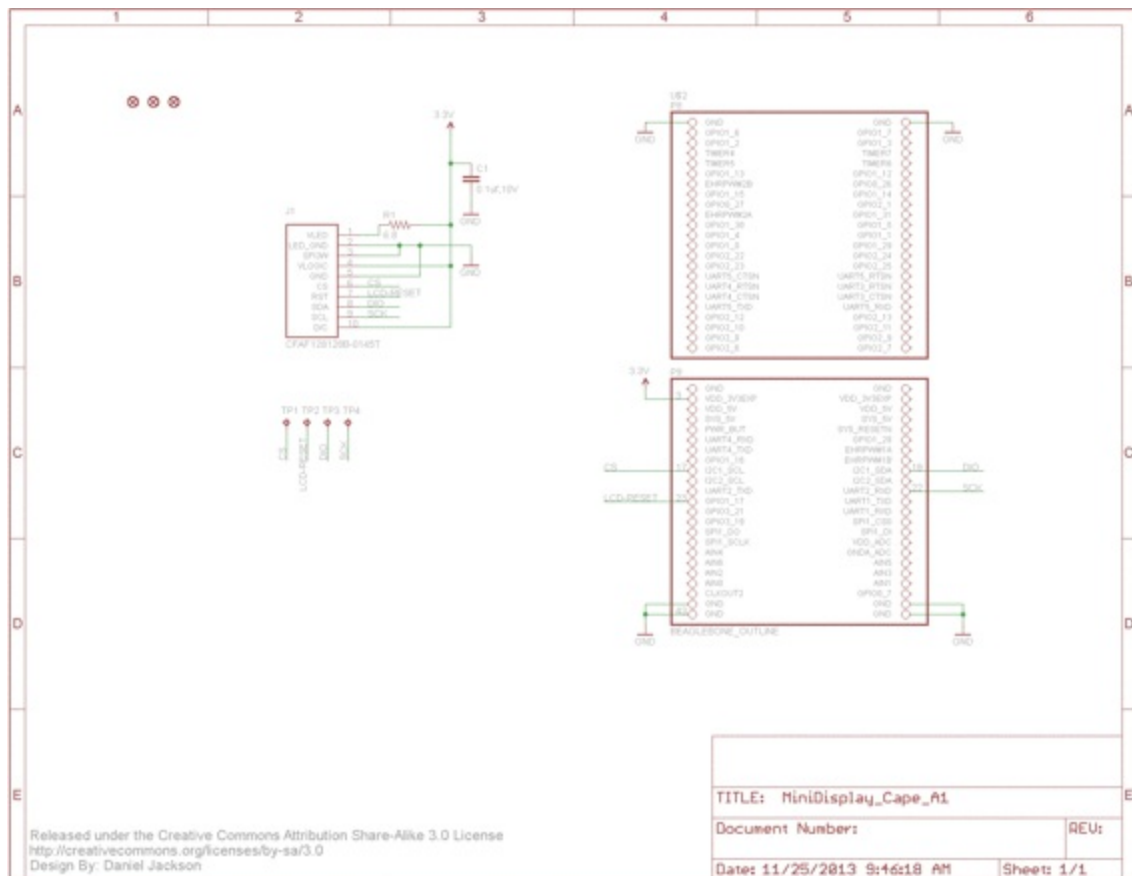
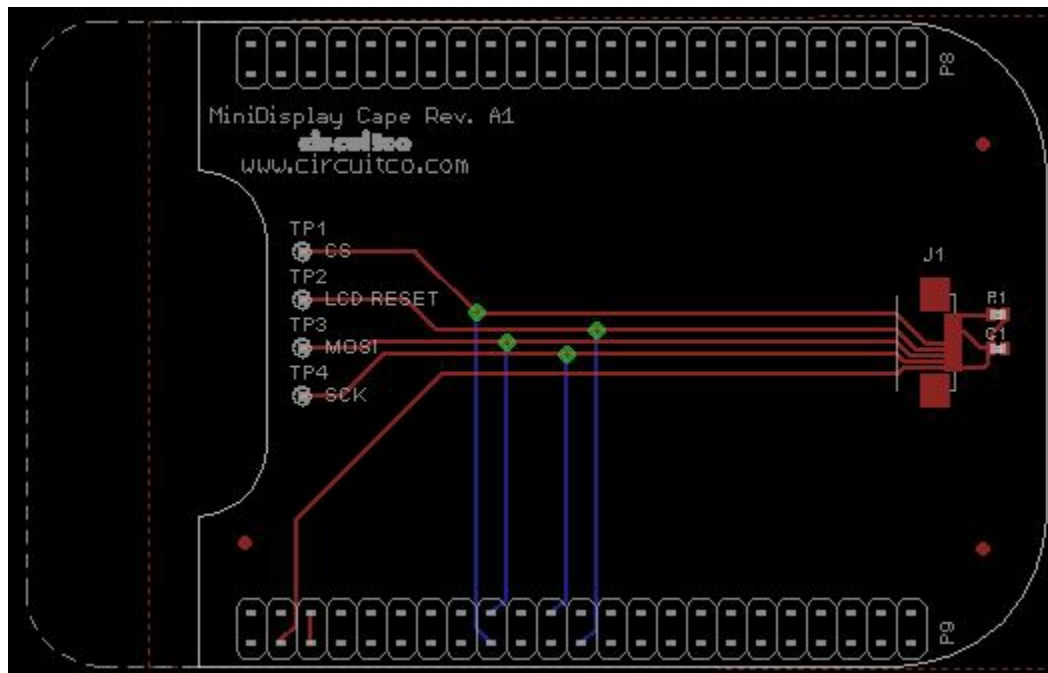

Figure 9-23. Schematic for the MiniDisplay cape
Figure 9-24. PCB for MiniDisplay cape
**Eagle PCB** and **DesignSpark PCB** are two popular design programs. Many capes (and other PCBs) are designed with Eagle PCB, and the files are available. For example, the MiniDisplay cape (**Recipe 9.2**) has the schematic shown in **Figure 9-23** and PCB shown in **Figure 9-24**.